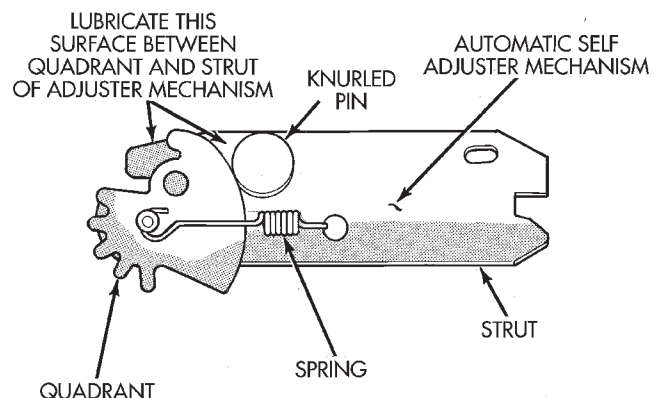

Fig. 179 Automatic Self Adjuster Mechanism
- Be sure the quadrant (Fig. 179) is free to rotate throughout its entire tooth contact range.
- Inspect the quadrant spring (Fig. 179) for any signs of excessive wear or damage.
- Ensure that the knurled pin (Fig. 179) is securely attached to the adjuster mechanism and that its teeth are not damaged.
If the adjuster mechanism is re-useable, apply a light coat of Mopar Multi-Purpose Lubricant or equivalent, between the quadrant and the strut of the adjuster mechanism (Fig. 179).